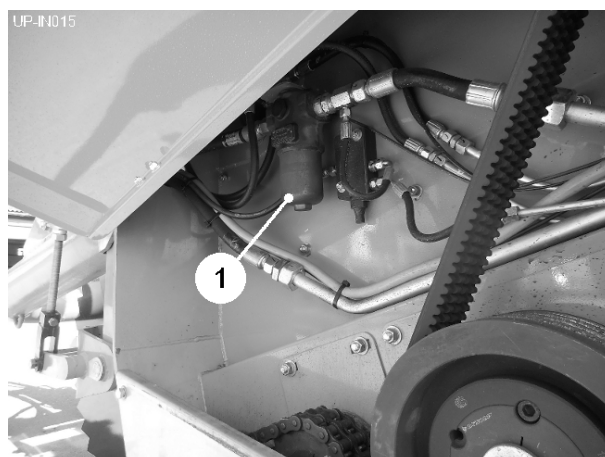

Fig 23
A pressure filter (item 1, fig 23) is mounted in the supply line from the tractor. The element should be replaced after the first 50 hours of running time and then annually or every 500 hours thereafter.